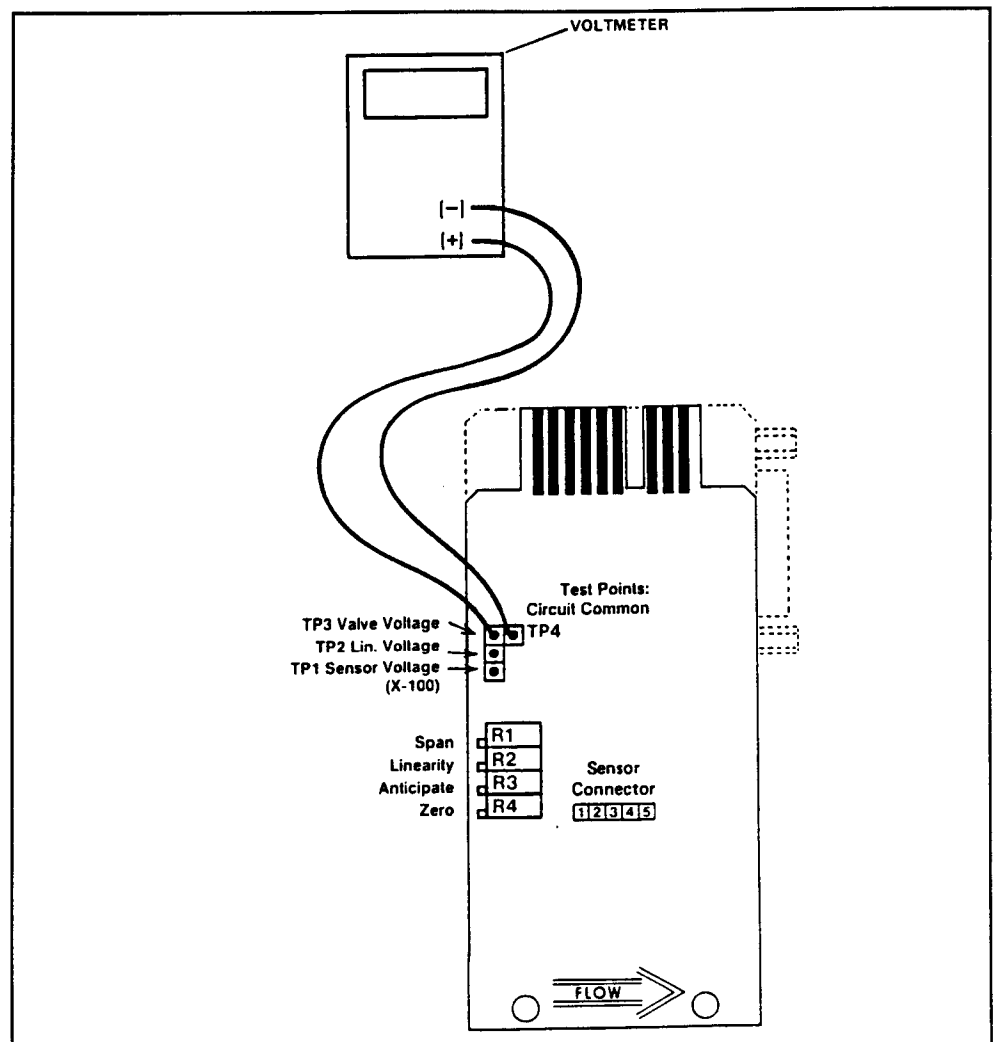

Figure 4-3. Voltmeter Connections for Valve Adjustment
- i. Measure the valve voltage by connecting a voltmeter between test point 3 (TP3) and test point 4 (TP4). Refer to Figure 4-3.